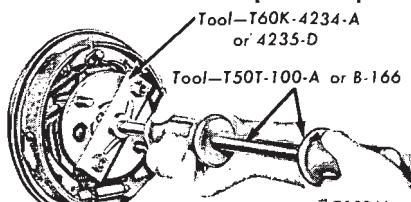

FIG. 3—Removing Axle Shaft
3. Working through the hole provided in each axle shaft flange, remove the nuts that secure the wheel bearing retainer plate. Then pull the axle shaft assembly out of the axle housing (Fig. 3). The brake backing plate must not be dislodged. Install one nut to hold the plate in place